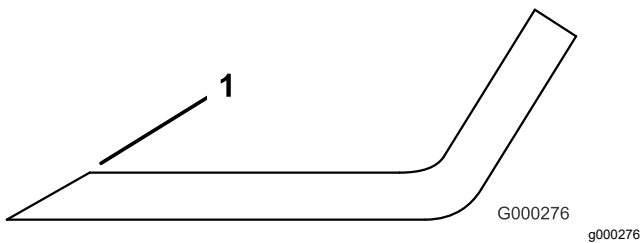

Figure 77
3. Examine the cutting edges of all the blades and sharpen the cutting edges if they are dull or nicked (Figure 77).
Note: Sharpen only the top of the cutting edge and maintain the original cutting angle to ensure sharpness (Figure 77). The blade remains balanced if the same amount of metal is removed from both cutting edges.